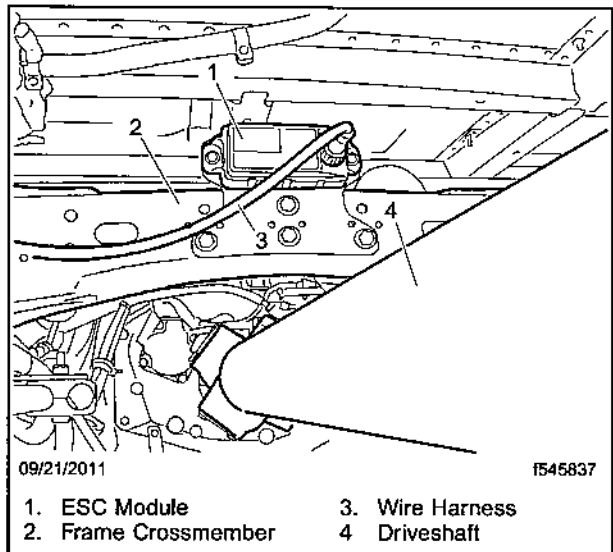

Fig. 4, ESC Module Connection
2. Connect the wiring harness connector to the old ESC module. Hand tighten only. See Fig. 4.
4. Remove the two mounting capscrews and nuts. Remove the ESC module. See Fig. 4.